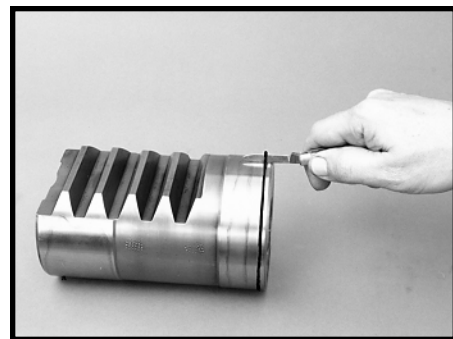

Figure 80
38. Remove and discard the rack piston backup “O” ring (35) from the rack piston. SEE FIGURE 80.